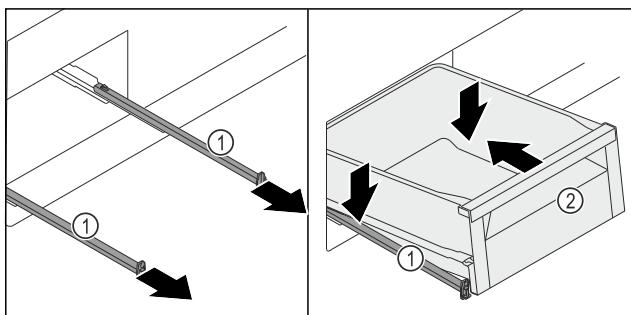

Fig. 259
- Pull out the rails Fig. 259 (1).
- Hold the rails Fig. 259 (1) firmly and place the drawer Fig. 259 (2) diagonally on the rails Fig. 259 (1) from above.
- Slide the drawer Fig. 259 (2) backwards on the rails Fig. 259 (1) as far as it will go.